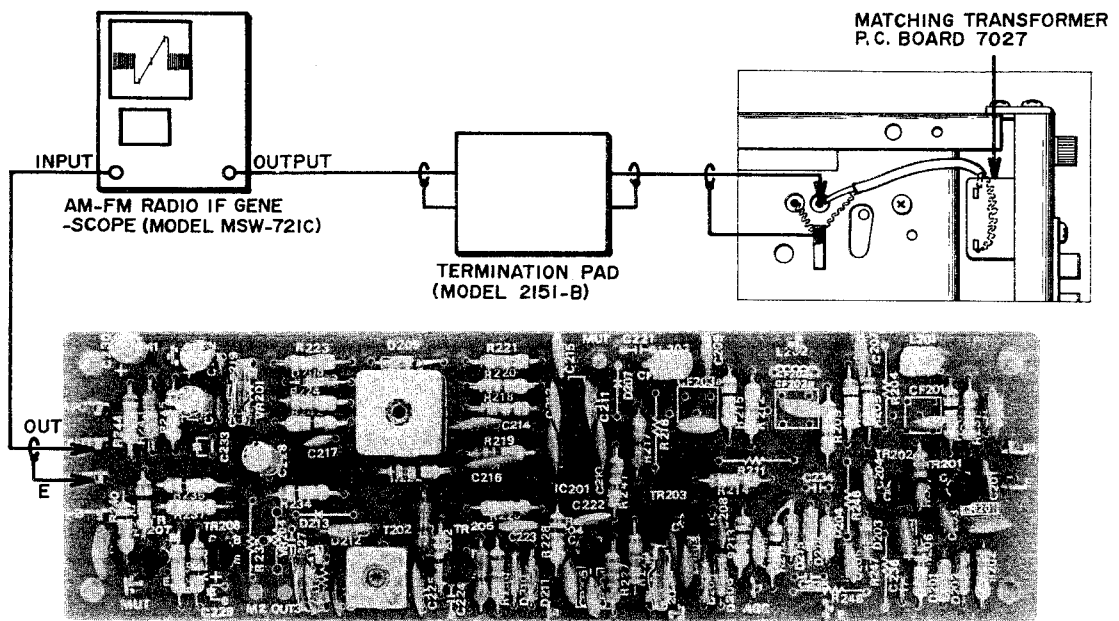

Fig. 8 FM IF AMP. P.C. BOARD 2014
- 1) Connect the lead wires of an AM-FM Radio IF Genescope to the antenna terminal of the Front End and FM IF Amp. P.C. Board output terminal as shown in Fig. 8.